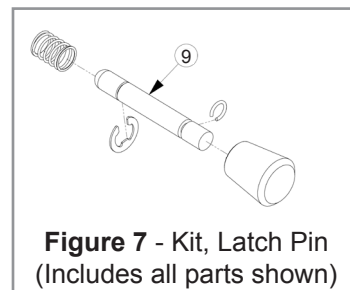

Figure 8
1. Determine where you want the assist handle to be mounted (Figure 8).
4. When mounting to an 80" head section, line up holes A & E and holes B & F. For a 76" head section, line up holes E & J and holes F & K. The mounting bracket is attached to the foot section on either 76" or 80" beds using holes C & G and holes H & D (Figure 8). See page 8 for additional installation steps. Please note the same mounting bracket is used in all mounting locations listed above.